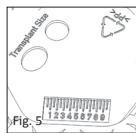

Fig. 5
■ **Fig. 1b/5** The integral templates on the back of the sizer disk (Fig. 1b) correspond to the minimum size of the graft for lining the tympanic membrane (Fig. 5). Oval: for an oval prosthesis head plate
■ **Fig. 5** The millimetre scale is used for general comparative measurements, which might be useful during a middle ear operation. Basically, the back can also be used as storage space or a preparation field for various processes, such as working on the graft or for temporary storage.